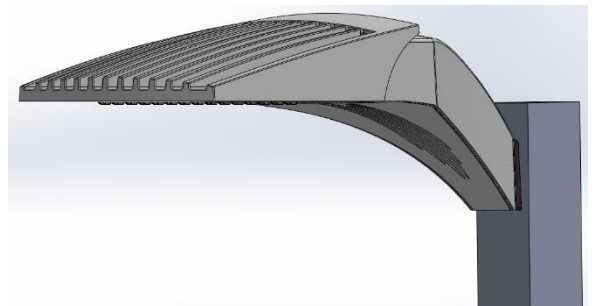

Fig.8
- Push door up into luminaire until a “click” is heard to engage the lock and close the luminaire (Fig. 8).